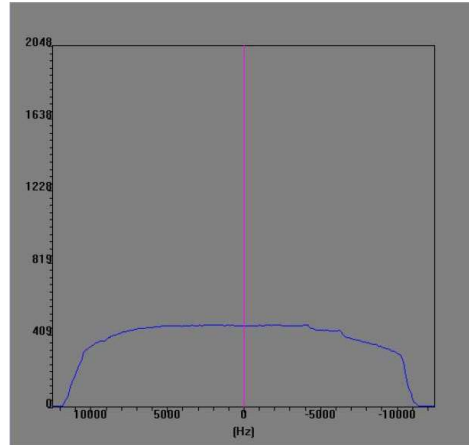

Figure 2: Example of the projection of a sagittal slice when the Oil/Water phantom is centered
3. Run Receive Gain mode and move the phantom along the direction of the bore until the object projection is centered in the field of view (refer to Figure 2).